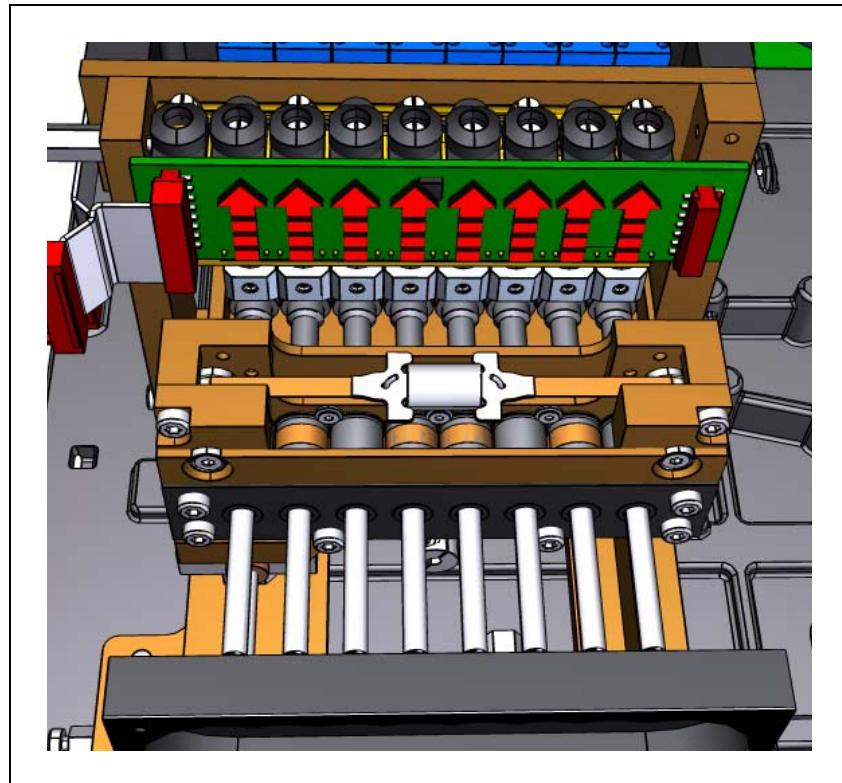

Figure 6-21. Release all tooltubes.
7. Release the Hz-wagon leaving it to rest in the lower position. In order to make the Hz-wagon stay in the bottom position, release the tool tubes by carefully pulling each one of the eight latches out (See Figure 6-21 and 6-22).